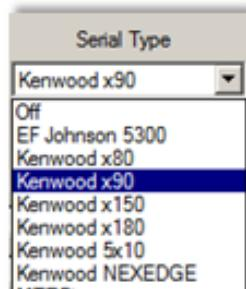

FIGURE 2. Serial Type Drop Down Menu
5. From the Serial Type drop down menu, select the **appropriate Kenwood radio series** you are configuring (Figure 2).